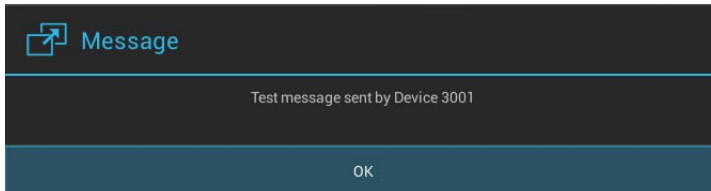

FIG. 48 Enzo - Successful Test Message
5. To test the connection, press the *Send Message* icon in the *RECEIVER LIST* to send a test message to the Enzo unit. If the Enzo is communicating with the panel, it will indicate the test message on it's connected display (FIG. 48):